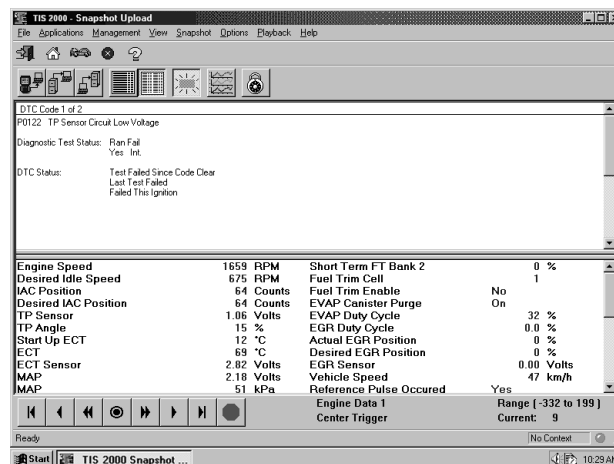

FIGURE 8-43. Viewing DTC Codes on Snapshot Upload Screen
- Single-Column (see Figure 8-43) lists data parameters in a single column that uses larger type, which makes the data easier to read at a distance.